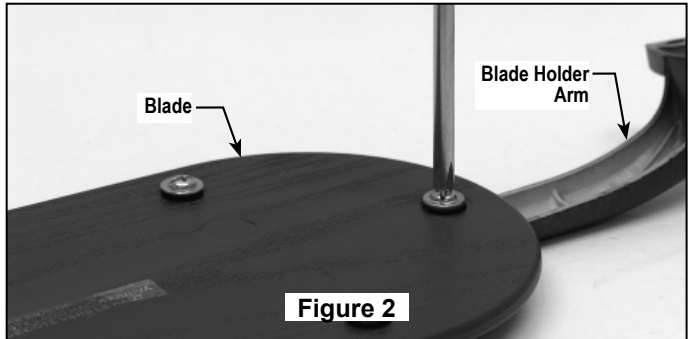
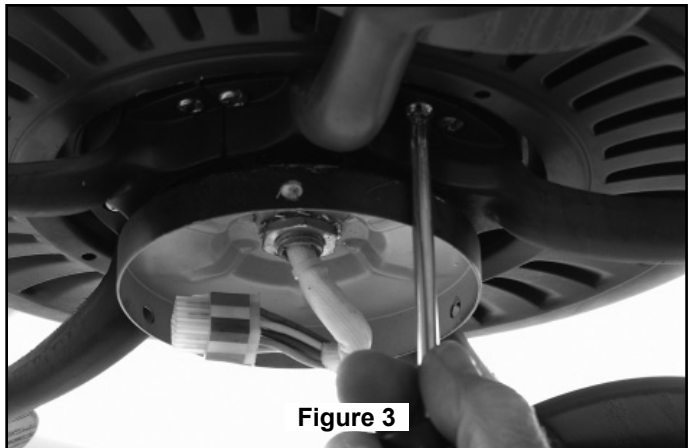

Figure 2
Figure 3
4. Loosen the two setscrews and hex nuts in the Downrod Support. Screw Downrod into Coupler. Align the Clevis Screw holes in the Downrod with the holes in the Downrod Support. (Figure 2)
5. Install the Clevis Screw, Rubber Washers and secure with the Clevis Locknut and Hairpin Clip. (Figure 2) The Clevis Locknut, Hairpin Clip and Washers must be properly installed to prevent the Clevis Screw from working loose.
6. Route wires through Motor Coupling Cover and Canopy. Position Canopy on fan shown with open side facing up. (Figure 3)
7. Reinstall the Hanger Ball (Figure 3) on the Down rod as follows. Route the three 80" wires through the Hanger Ball. Position the Pin through the two holes in the Down rod and align the Hanger Ball so the Pin is captured in the groove in the top of the Hanger Ball. Pull the Hanger Ball up tight against the pin. **Securely tighten the setscrew in the Hanger Ball.** A loose setscrew could create fan wobble.
1. Securely attach the hanger bracket to the outlet box using the outlet box screws and washers supplied with the outlet box (Figure 2).
NOTE: Outlet box screws pass through slotted holes of the hanger bracket (Figure 2).
3. Carefully lift the fan and seat the downrod/hanger ball assembly on the hanger bracket that was just attached to the outlet box (Figure 3). Be sure the groove in the ball is lined up with tab on the hanger bracket (Figure 2).
3. With a Phillips screwdriver, tighten screws with flat washers to secure the blade. (Figure 2)
4. Attach Blade Holders to the Motor Hub using the Screws w/Lock washers as shown in Figure 3.
5. Make sure the screws with lock washers securing the Blade Holders to the Motor Hub are tight and that the Blade Holders are properly seated. (Figure 3)
2. Assemble the Switch Cup Assembly onto the Housing Adapter with three screws. (Figure 2)